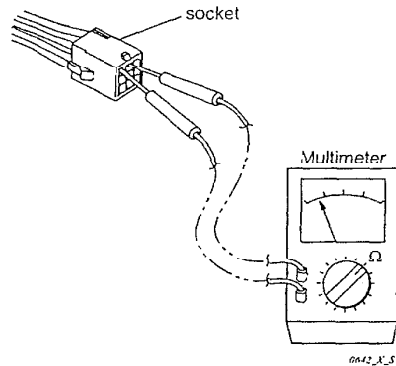

Fig. 17
- Then check continuity among plug's (and/or socket's) terminal as in **Fig. 17**.